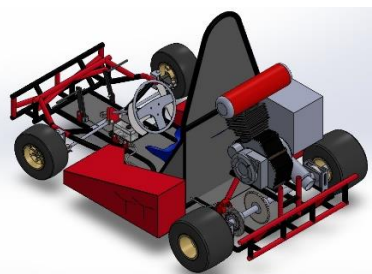
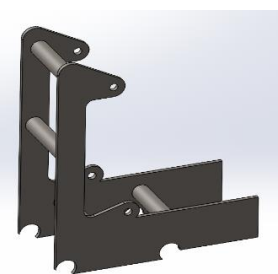

Fig.7 Rear Engine
Fig.9 Engine Mount
3) **Engine Location, Mounting, and Design:** Generally, there are two types of engine positioning followed by the Go-Karts, i.e., Rear Engine and Side Engine, as shown in Fig.7&8, respectively. Previously, we used rear engine positioning. However, the current kart was made for the side engine position as the rear position is less favourable for the cooling system, especially for air-cooled engines. The engine mount was designed by taking the PCD of the actual engine positioning and mounting points; the engine mount made by using the PCD is shown in Fig.9